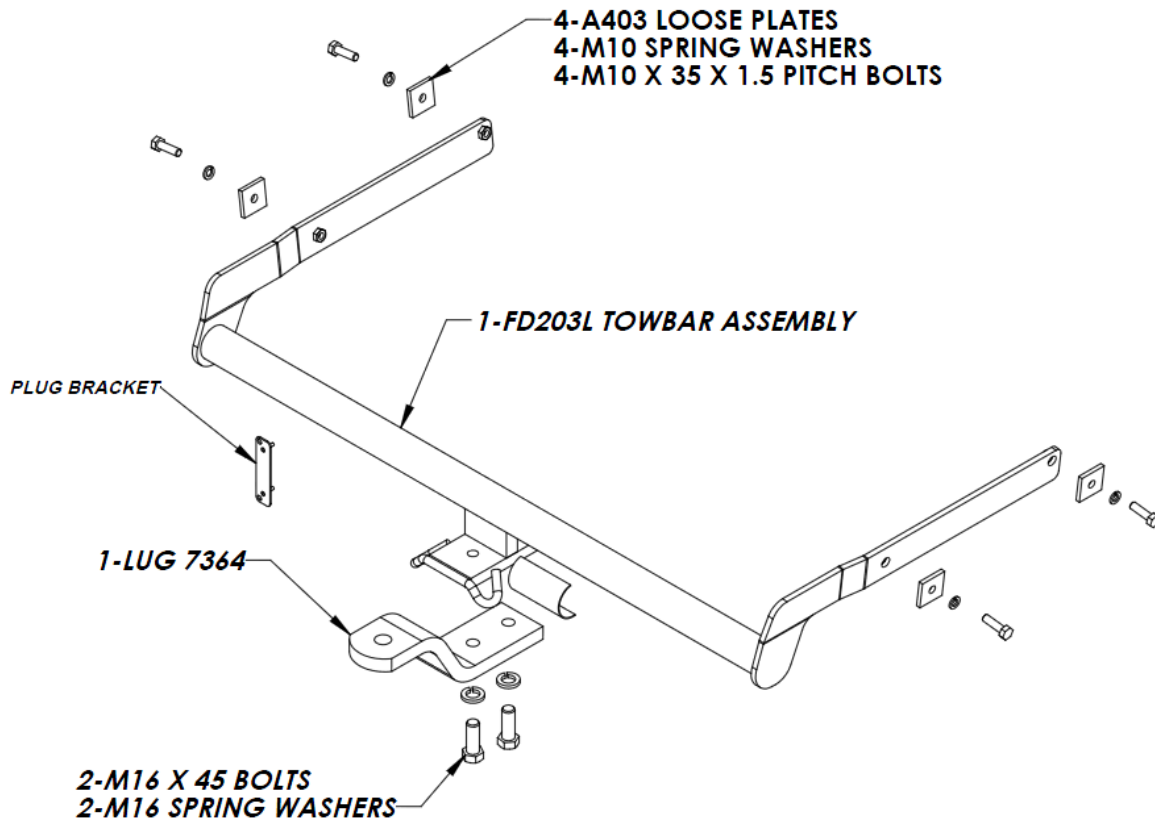

Fig 2
1. Ensure all hardware items shown in Figure 2 have been included.
6. Fit plates bolts & washers loosely as per figure 2 on page 3.